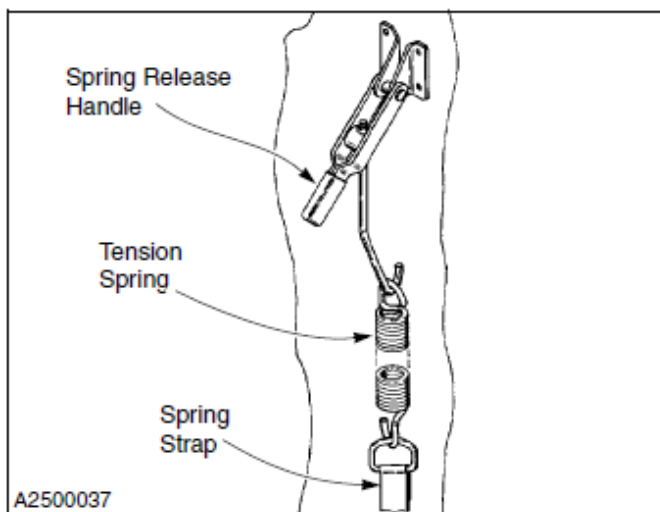

Figure 70
3. Carefully release the tension spring by pulling down on the spring release handle. If the end bracket is in front of the spring tension assembly, release the brake and raise or lower the door as required. (See Figure 70)